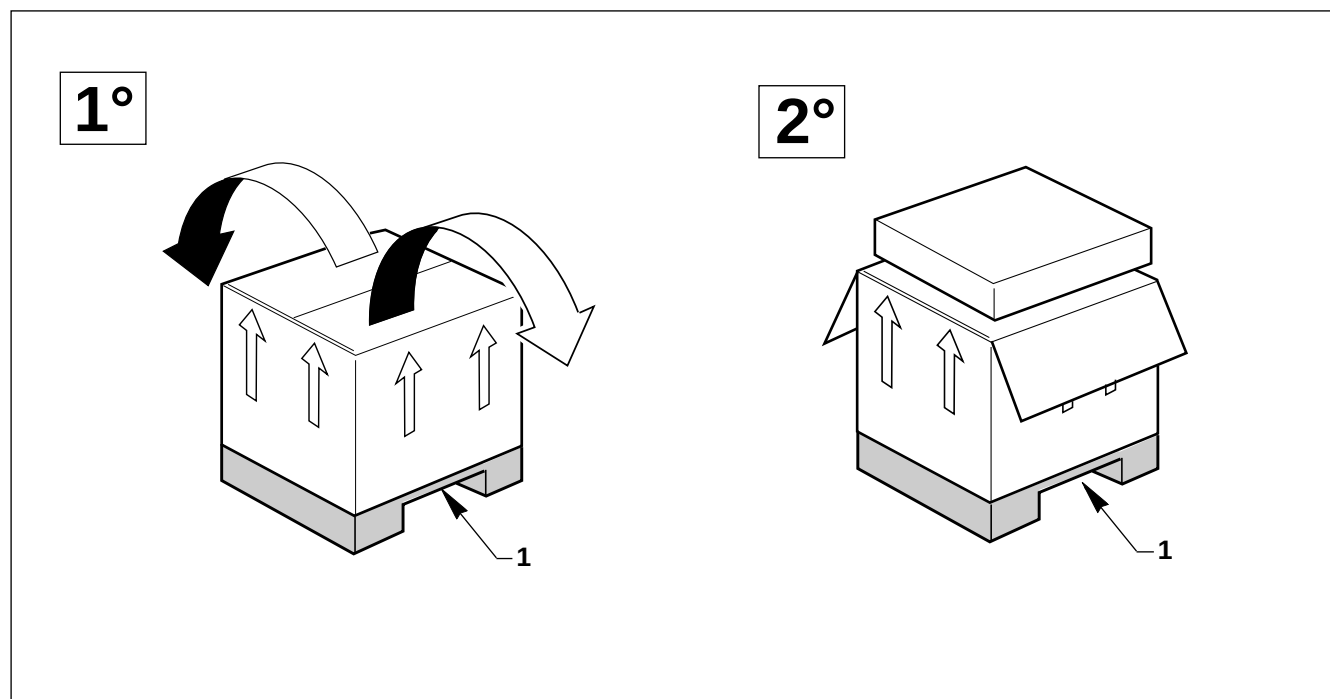

Fig. 3 TRASPORTO E SBALLAGGIO
1.3 TRASPORTO E STOCCAGGIO (Fig. 3)
1.3 TRANSPORT AND STORAGE (Fig. 3)
1.4 SBALLAGGIO (Fig. 3)
1.4 UNPACKING (Fig. 3)